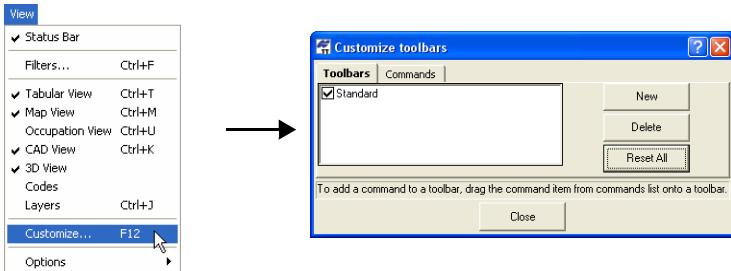

Figure 1-18. Customize Toolbars
1. To customize toolbar options, click **View ▶ Customize**. The *Toolbars* tab in the ***Customize toolbars*** dialog box displays all available toolbars for activating or inactivating, and adds or deletes toolbars. (Figure 1-18).